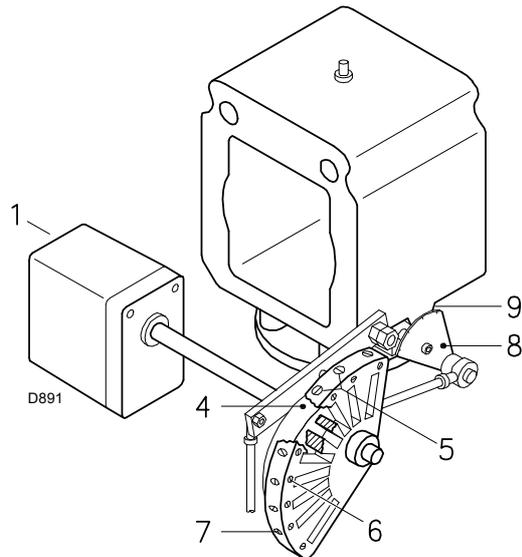

Fig. 31
Progressively adjust the end profile of cam 4)(Fig. 31) by turning the screws 7).
Key (Fig. 31)
Progressively adjust the initial profile of the cam 4) Fig. 31 on page 26 by turning the screws 5).
- release the cam 4) Fig. 31 on page 26 from the servomotor by pressing (and moving to the right) the release button on the servomotor;
- Once optimum adjustment has been reached, fix it with the screws 6) Fig. 31 on page 26.